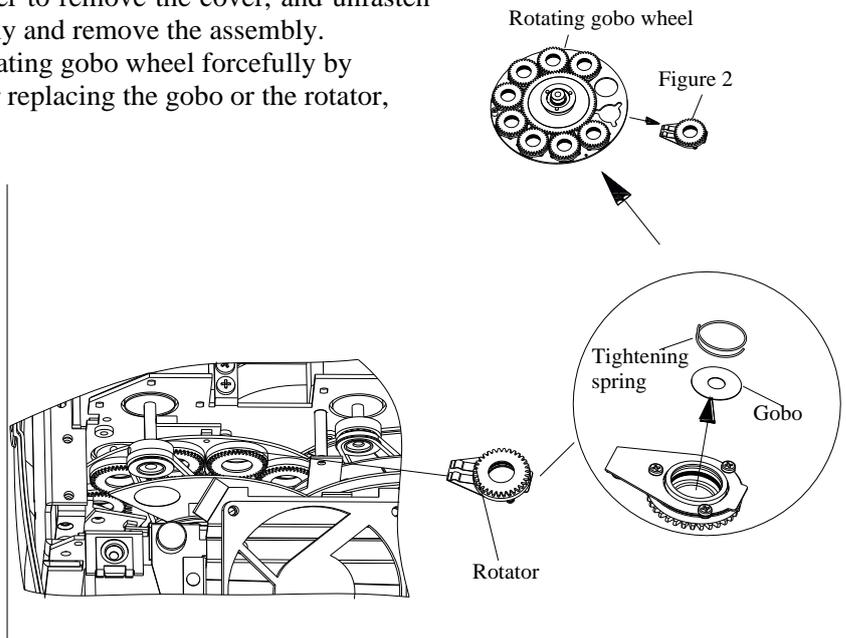

Figure 2
2. Pull out the rotator from the rotating gobo wheel forcefully by fingers as shown in figure2 After replacing the gobo or the rotator, put the rotator back to the holder.